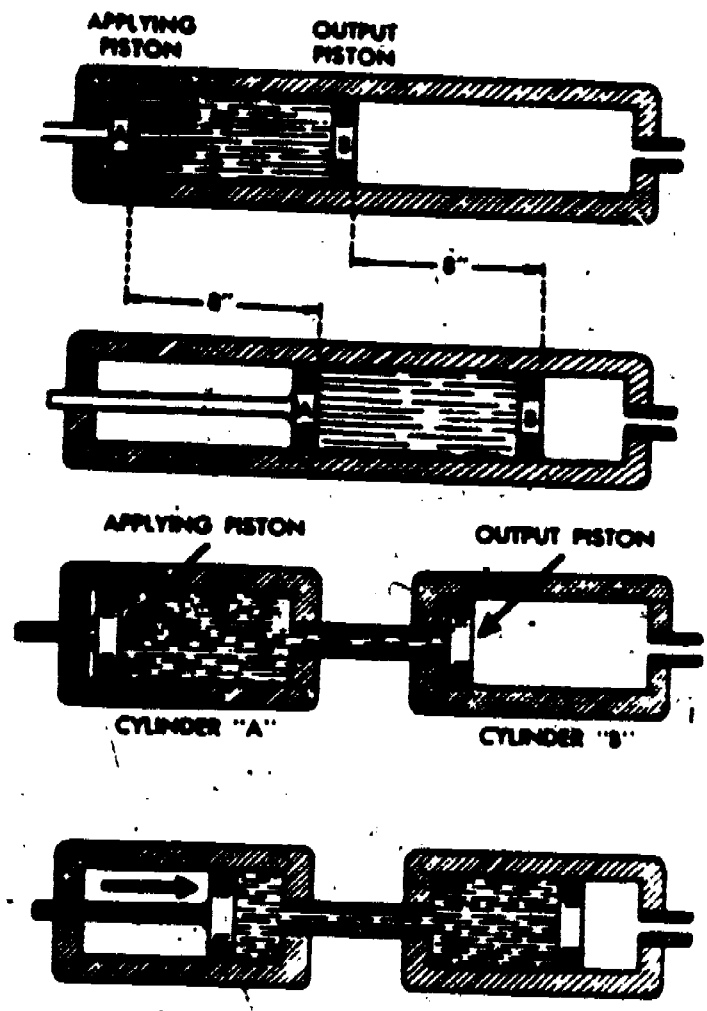

Figure 9. Motion Can Be Transmitted By Liquids.
2. Motion can be transmitted by liquids. Figure 9 shows two pistons in a cylinder, with a liquid separating them. If piston A is moved to the right, piston B will be moved to the right the same distance. This is due to the rule stated in paragraph 1. Two cylinders of the same diameter are connected by a tube as shown in figure 9, and one piston is contained in each cylinder. - If the space between the two pistons is completely filled with liquid, then a movement of piston A to